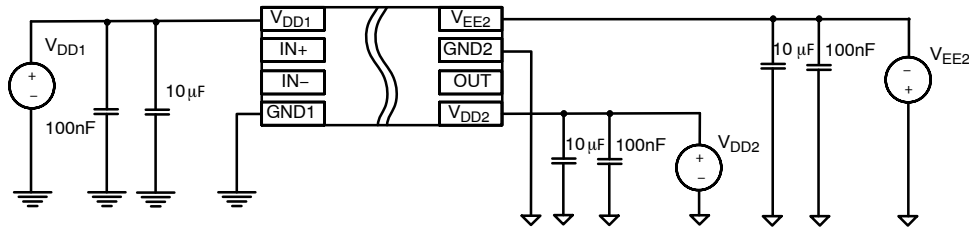

Figure 30. Bipolar Power Supply (NCx5708zB)
- In bipolar power supply the driver is typically supplied with a positive voltage of 15 V at  $V_{DD2}$  and negative voltage -5 V at  $V_{EE2}$  (Figure 30). Negative power supply prevents a dynamic turn on through the internal IGBT/MOSFET input capacitance